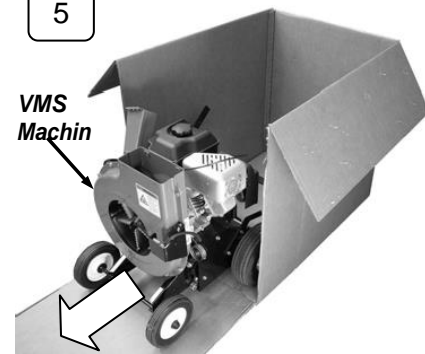

Figure 5
2. Use the utility knife to cut down the two corners one end of the box, and then roll the machine out (Figure 5).